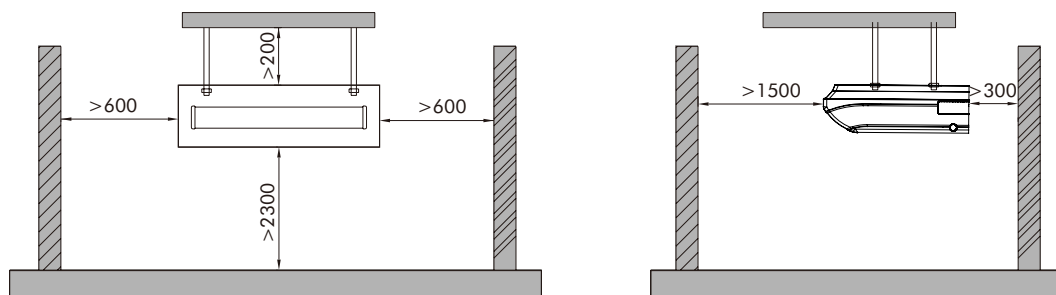

Figure 3-1-23
- (1). Install the unit at a place where is strong enough to withstand the weight of the unit.
- (2). The air inlet and outlet of the unit should never be clogged so that the airflow can reach every corner of the room.
- (3). Leave service space around the unit as required in Figure 3-1-23.